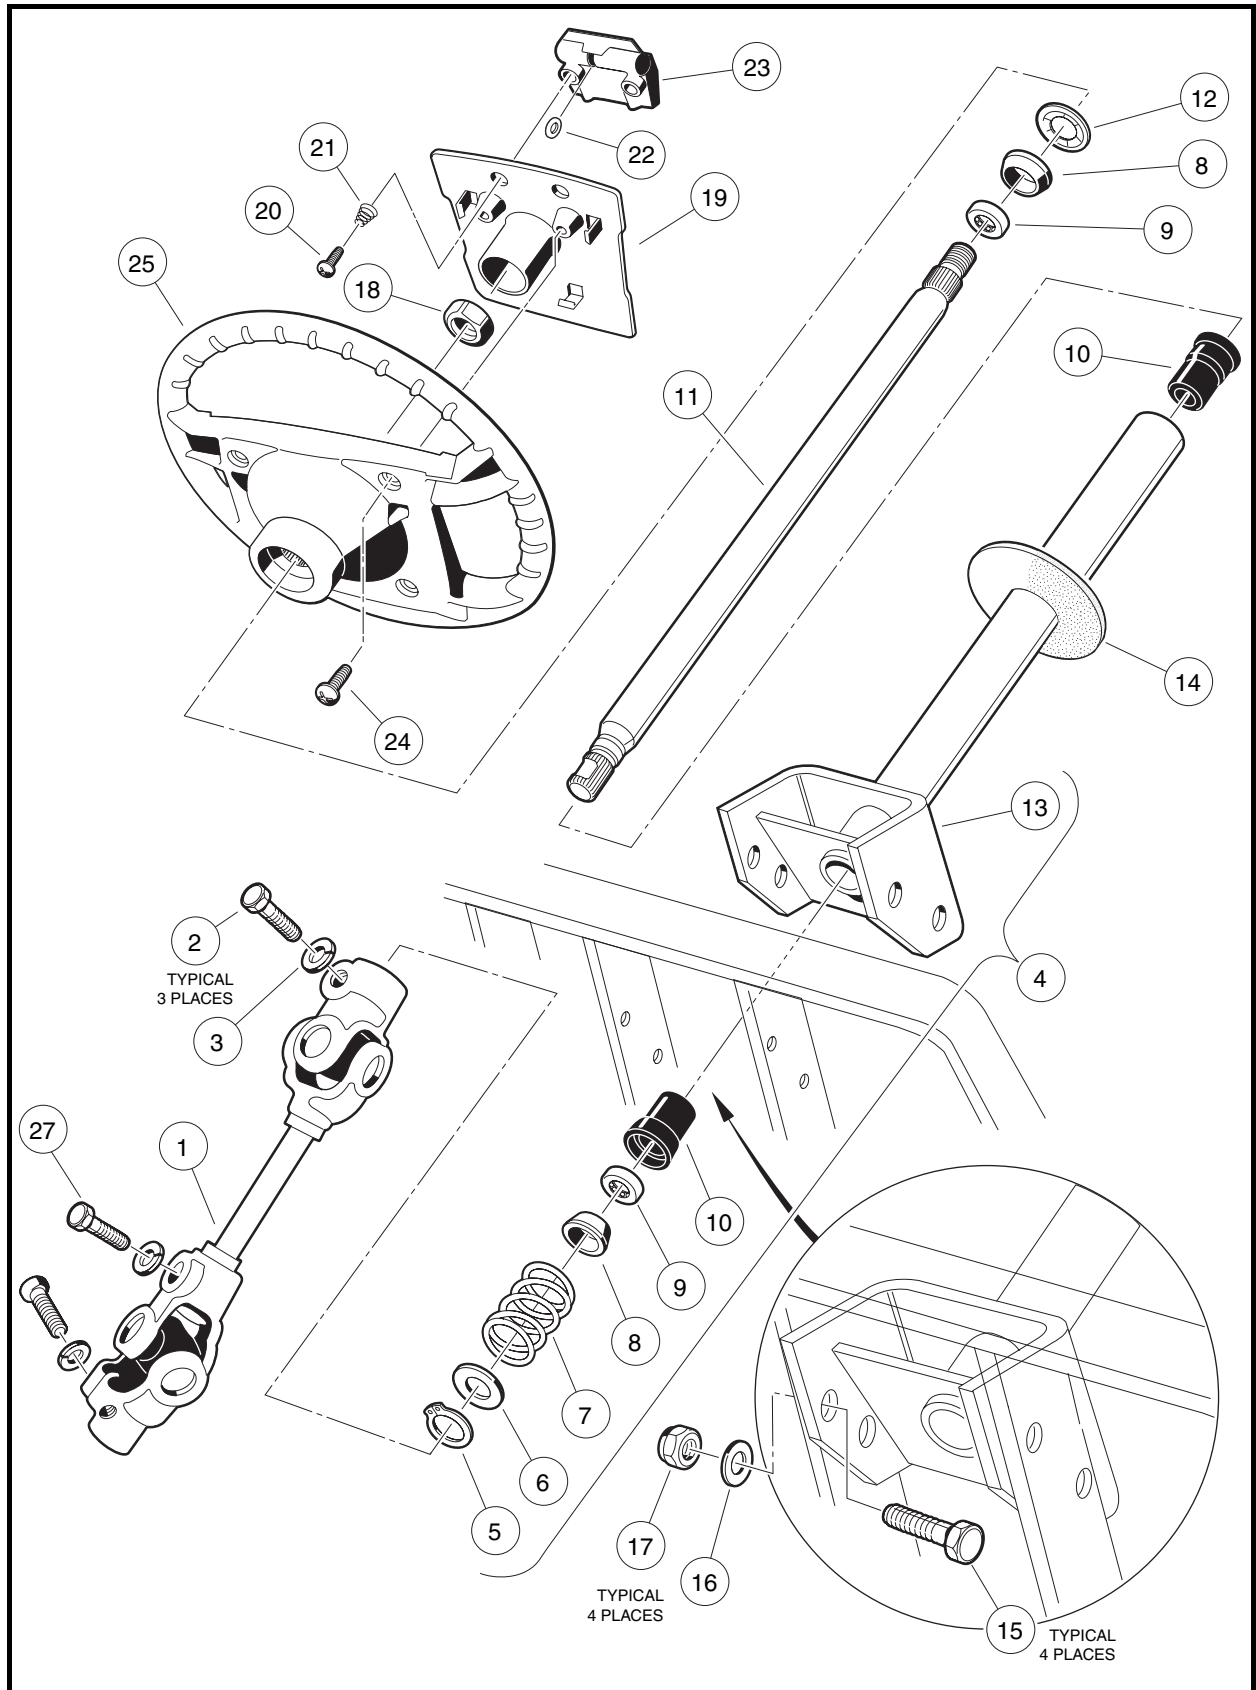
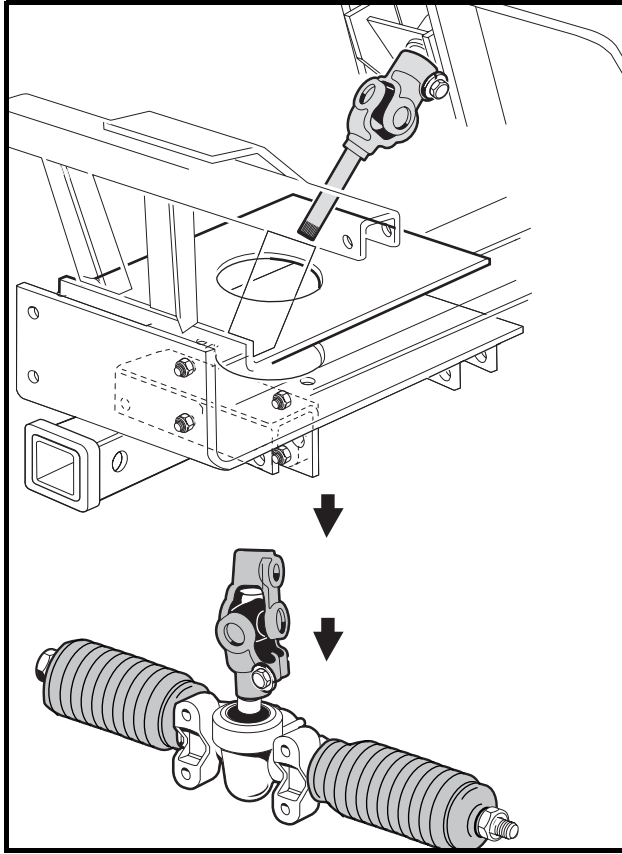

Figure 7-3 Steering Column
Figure 7-8 Remove Rack and Pinion
4. Remove the two mounting screws (24) and plate (19) (**Figure 7-3, Page 7-2**).
5. Match mark the steering wheel (25) and steering column shaft (11) for installment positioning.
6. Loosen the steering wheel nut (18) and back it off approximately 1/4-inch (6 mm). Do not remove the nut.
1. Install the steering wheel (25) on the splines of the steering shaft (11). Align the match marks placed on the wheel and steering column shaft in step 5 above (**Figure 7-3, Page 7-2**).
2. Install the steering wheel nut (18) and tighten to 13 ft-lb (17.6 N·m).
3. Install the steering wheel plate (19) and mounting screws (24) and tighten screws to 16 in-lb (1.8 N·m).
7. Remove the nuts (17), bolts (15), and washers (16) from the steering column mount (13) (**Figure 7-3, Page 7-2**).
1. While supporting steering column (13) on a workbench, remove snap ring (5) from shaft (**Figure 7-3, Page 7-2**).
2. Remove the washer (6), spring (7), and wedge (8) (**Figure 7-3, Page 7-2**).
3. Turn the steering column over and slide the shaft out of the tube to expose the retaining ring (12). Use pliers to twist the retaining ring (12) until it breaks off, then remove the wedge (8).
4. Remove the shaft (11) from the bottom of the tube (13).
5. Use steering shaft (11) to push bearing seat (10) out from the opposite end of the steering tube (13).
6. Insert a flat blade screwdriver between the bottom of the outer race of the bearing (9) and the bottom lip of the bearing seat (10) and remove the bearing (9).
4. Insert the shaft (11) from the bottom of the steering tube (13) (**Figure 7-3, Page 7-2**).
1. Install boot (14) (if previously removed) (**Figure 7-3, Page 7-2**).
3. Position the steering column assembly in the vehicle while inserting the steering column shaft into the upper steering universal joint (1). The flat portion of the steering shaft spline (11) must be aligned with the bolt hole in the steering universal joint (1) before sliding the spline into place (**Figure 7-3, Page 7-2**)
5. Hold the steering column in place and attach it to the frame using bolts (15), washers (16) and locknuts (17) (**Figure 7-3, Page 7-2**). Tighten the four bolts, in a crisscross pattern, to 23 ft-lb (31.2 N·m).
6. Tighten bolt (2) on the upper steering universal joint (1) to 15 ft-lb (20 N·m).
7. Check the other bolts on the lower steering universal joint assembly (1) to ensure that they are properly tightened to 15 ft-lb (20 N·m) (**Figure 7-3, Page 7-2**).
7. Remove the bolt (27) and lockwasher (**Figure 7-3, Page 7-2**) from the universal joint, then remove the rack and pinion assembly and universal joint from the vehicle (**Figure 7-8, Page 7-7**).